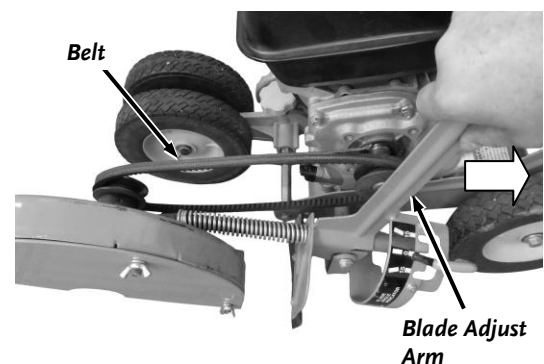

Figure 24
5. Pull back on the Blade Adjust Arm and remove the old Belt from Engine and Blade assembly Pulleys (**Figure 24**).